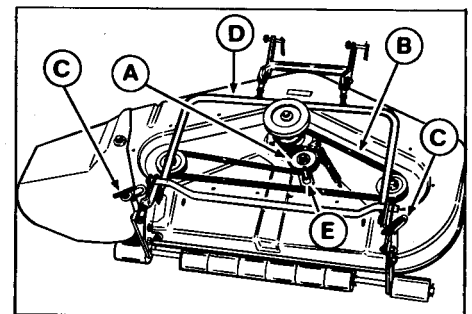

Figure 29. Mower Drive Belt - 42 Inch Mower Shown
3. Lift the bail assembly (D, figure 29) slightly to provide access for cover